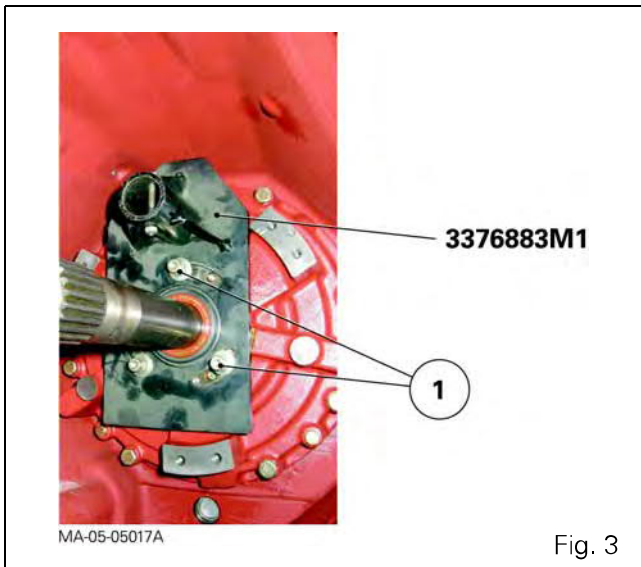

Fig. 3
7. Attach tool ref. 3376883M1 to the front cover plate of the input unit (Fig. 3).
IMPORTANT: To attach the tool to the front cover plate of the input unit correctly, use locally obtained screws (1) (Fig. 3) that are long enough and of suitable strength.
Parts list (Fig. 3)